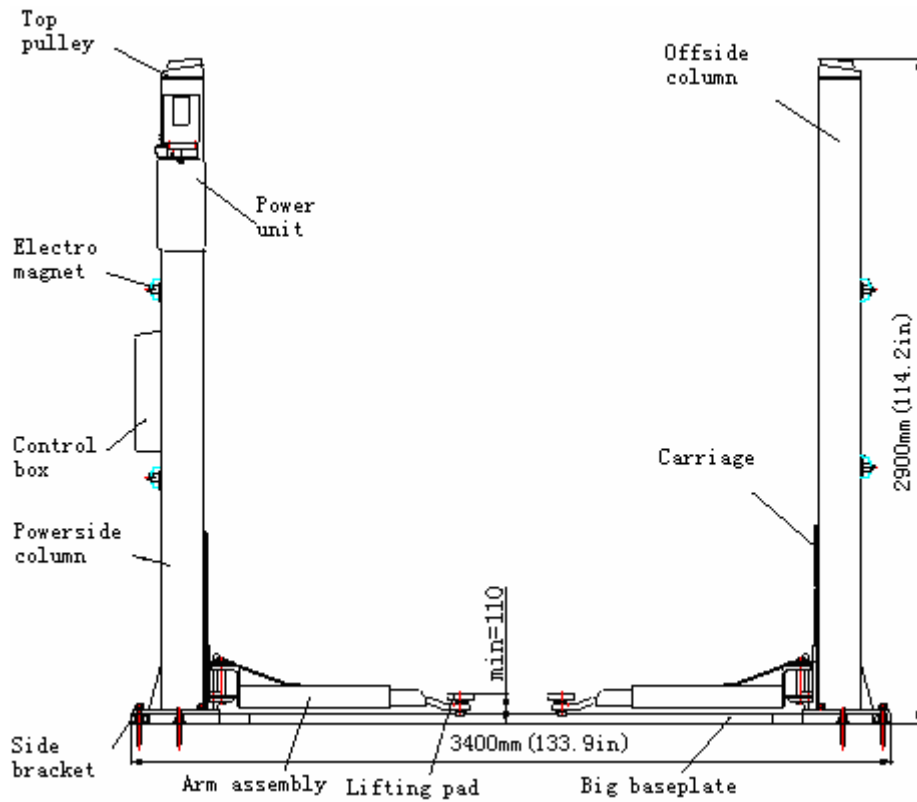
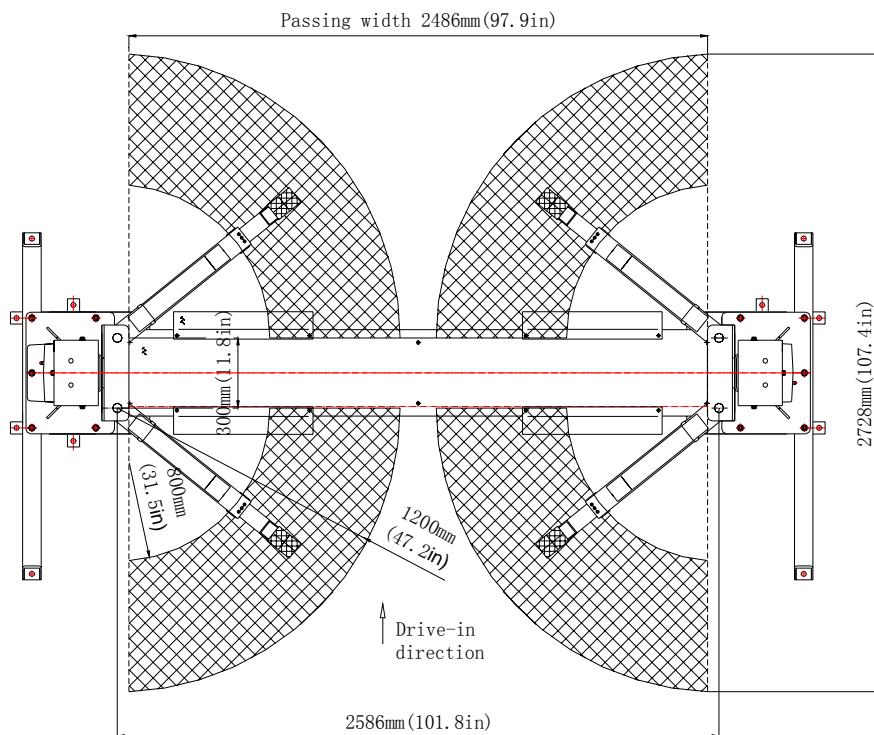

Fig 1b
Fig 2b
TLT235SBA(E) floor-plate 2-post lift	3.5T Luxurious symmetric wide floor-plate 2-post lift(Fig1b、 Fig2b)